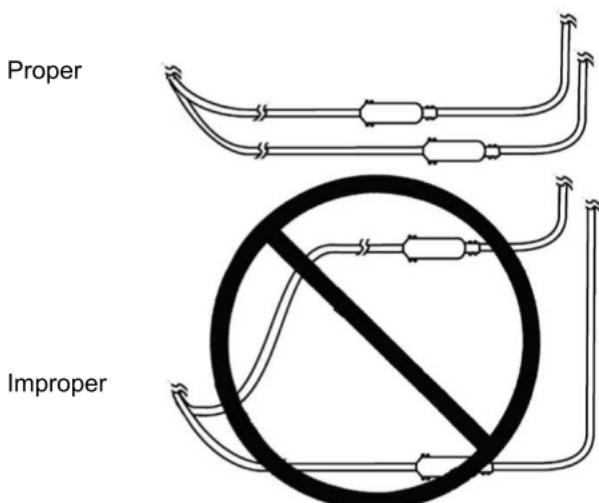

Figure 9. Routing for multiple lead-extensions.
- When two leads are implanted, route the lead-extensions so the area between them is minimized (Figure 9). If the lead-extensions are routed in a loop, the loop will increase the potential for electromagnetic interference (EMI).